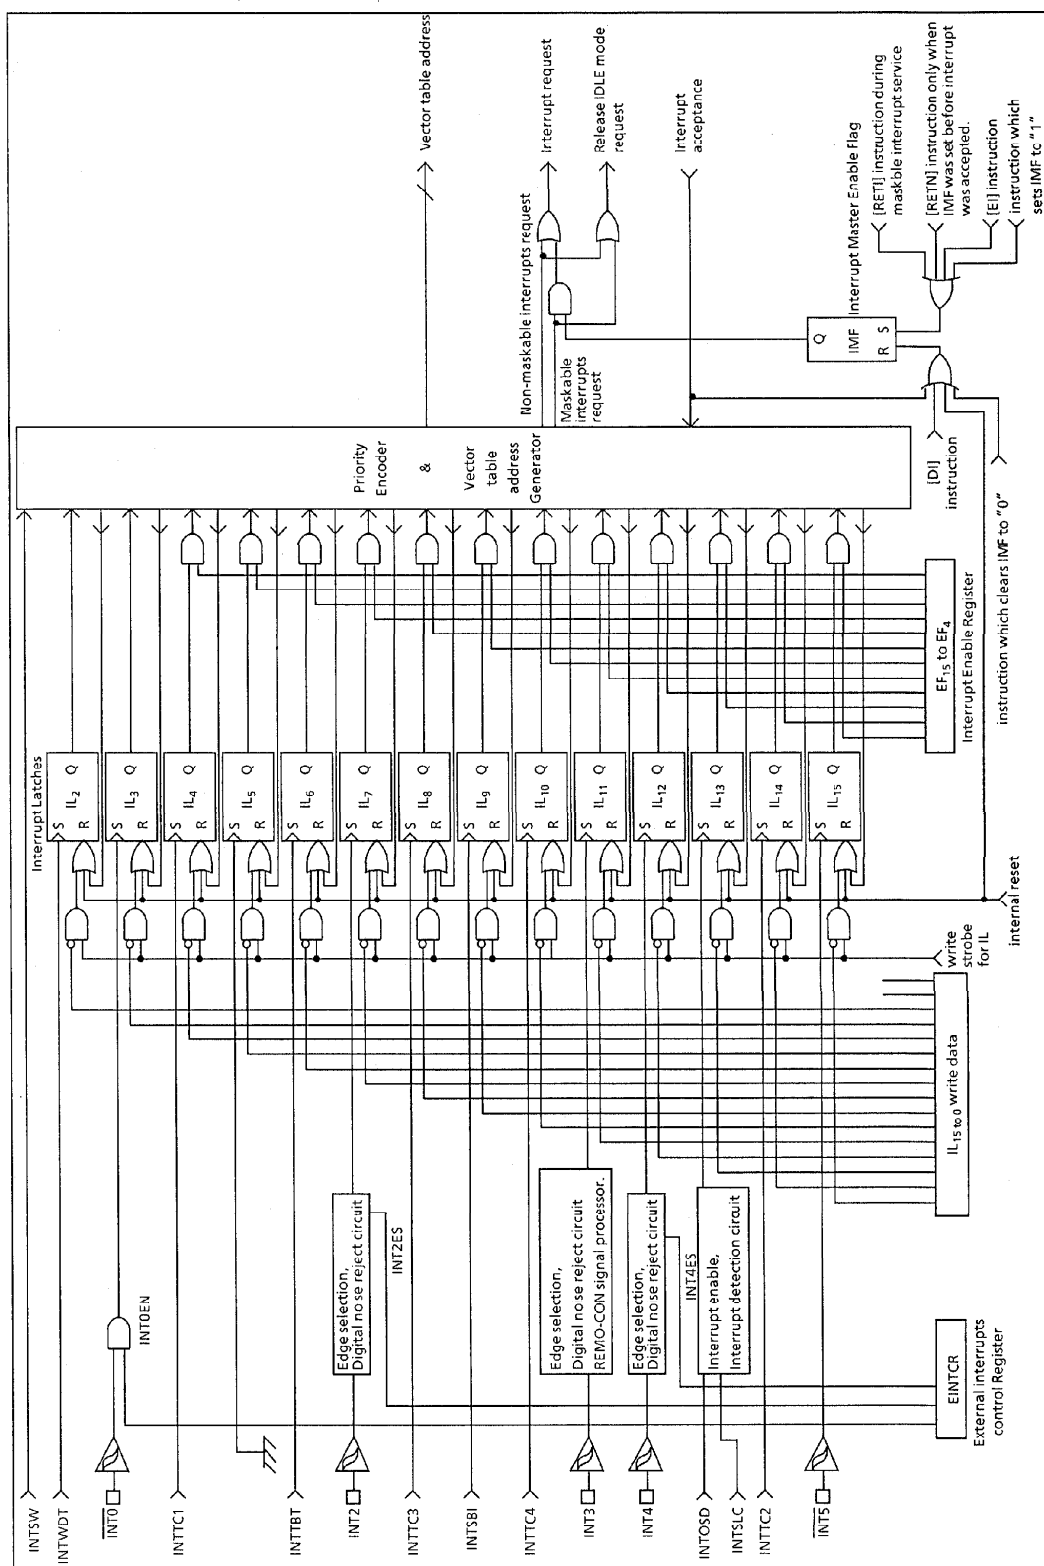

Figure 1-20. Interrupt Controller Block Diagram
The interrupt latch is set to "1" when an interrupt request is generated and requests the CPU to accept the interrupt. The acceptance of maskable interrupts can be selectively enabled and disabled by the program using the interrupt master enable flag (IMF) and the individual interrupt enable flags (EF). When two or more interrupts are generated simultaneously, the interrupt is accepted in the highest priority order as determined by the hardware. Figure 1-20 shows the interrupt controller.